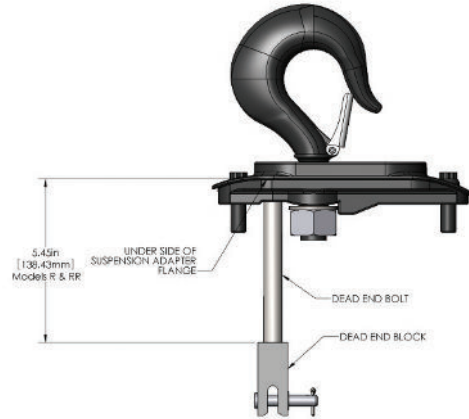

Figure 7. Hook Suspension
Remove the hook suspension, (2) suspension screws, (1) dead end pin, (1) washer, and (1) cotter pin from the packaging. It should be noted that the suspension includes a dead end bolt and block for supporting the dead end of the load chain as shown in Figure 7. If not previously assembled, assemble the dead end bolt and block through the suspension adapter as shown in Figure 7.
Check the position of the pin hole in the dead end block to make sure it has not been disturbed from its factory setting. The distance from the top of the pin hole to the bottom of the hoist should not exceed 1/4" (6.35mm) for Models E, E-2, H, H-2 and 7/16" (11.11mm) for Models R, R-2, RR, RR-2. If the distance is not correct, adjust the position of the dead end block to obtain the proper distance (see fig. 7)